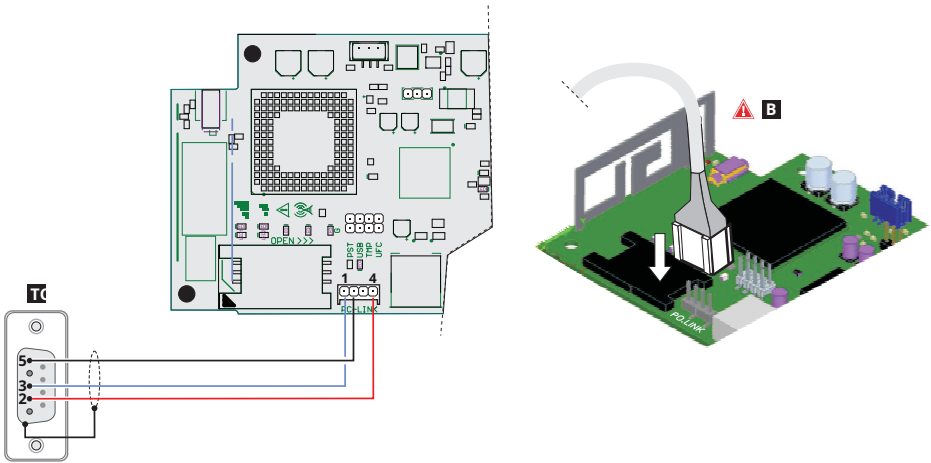

Figure 8 - PC-LINK cable connection: **TO**) RS-232 female connector, solder side **B**) Insert the PC-Link cable correctly.
1. Connect the PC-LINK serial port of the communicator to an RS232 serial port on the PC using the PC-LINK cable (accessory item), as shown in Figure 8.